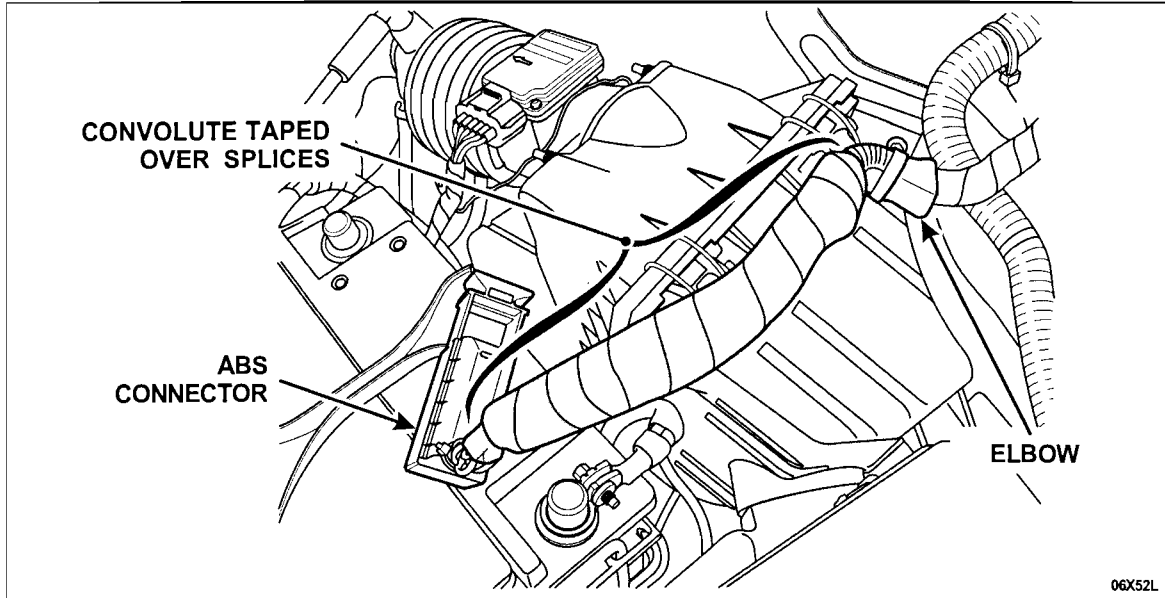

FIGURE 22
7. Install the supplied convolute tubing over the spliced area and secure with electrical tape. Apply tape to the entire length of the convolute and be sure to secure the convolute to the elbow at one end, and as close as possible to the ABS connector on the other. See Figure 22.